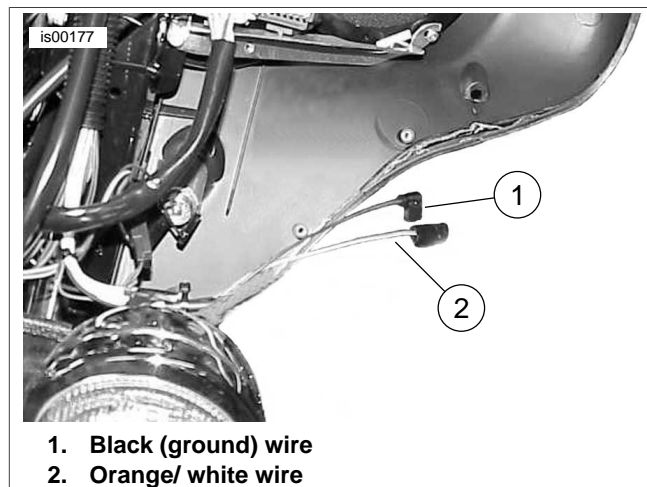

Figure 4. Wires for GPS Connection
15. See Figure 4, and the INTERCONNECT HARNESS wiring diagram in the Service Manual. Proceed according to the availability of the black (1) and orange/ white (2) wires of the position lamp circuit [29B] of the interconnect harness, located near the headlamp: